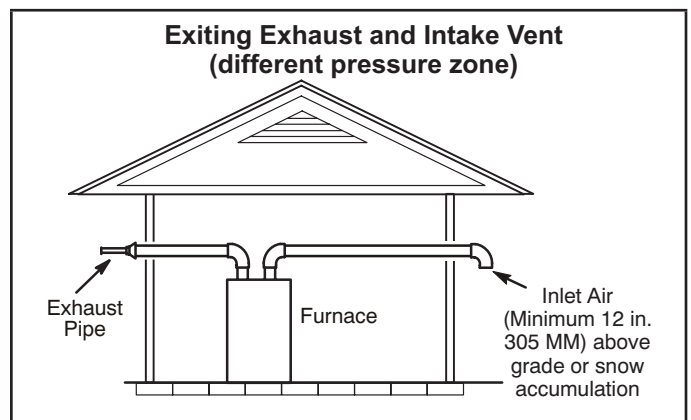
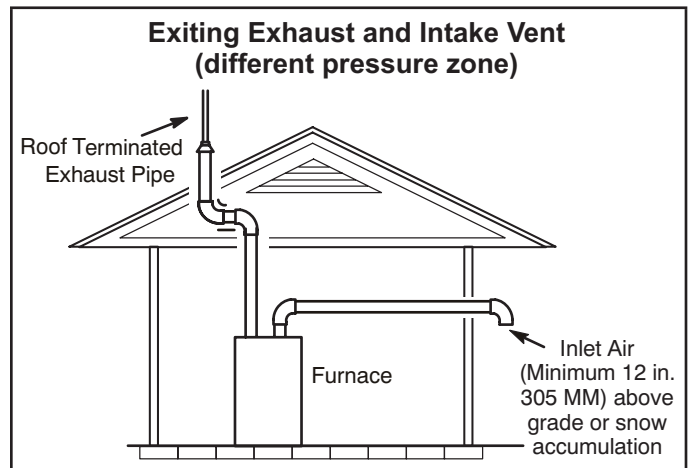

FIGURE 30
FIGURE 31
- 1 - Vent terminations are not required to be in the same pressure zone. You may exit the intake on one side of the structure and the exhaust on another side (FIGURE 30). You may exit the exhaust out the roof and the intake out the side of the structure (FIGURE 31).